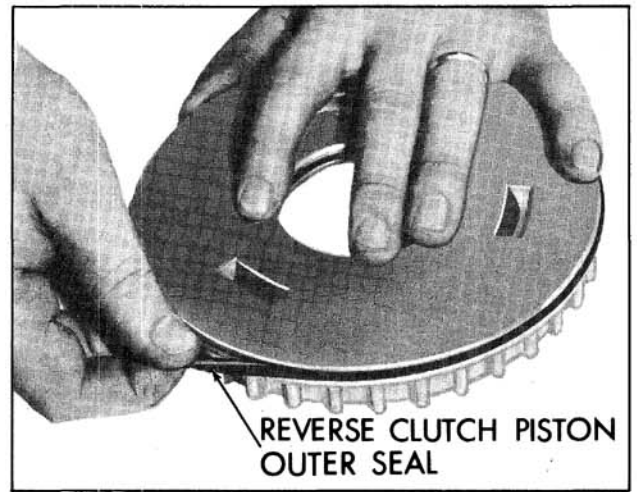

Fig. 6-478 Reverse Piston Outer Seal
1. Examine reverse clutch piston outer seal. If nicked, torn or worn, remove seal. (Fig. 6-478)
2. Lubricate with transmission oil and install reverse clutch piston outer seal. (Fig. 6-478)